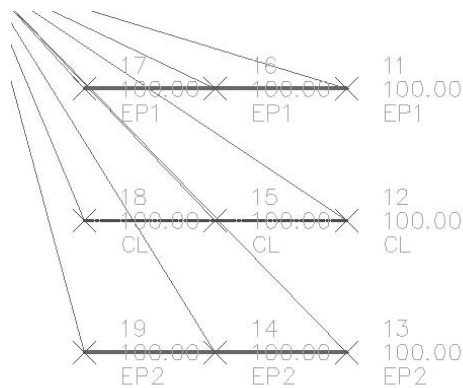

**Figure 4.15**
6. Wait as the interactive graphics draw the field book elements on the screen. When they have finished, you will see the points and linework in the drawing as shown in Figure 4.15.